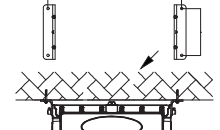

Figure 7
4. Tighten the nut of the screws (Figure 7).